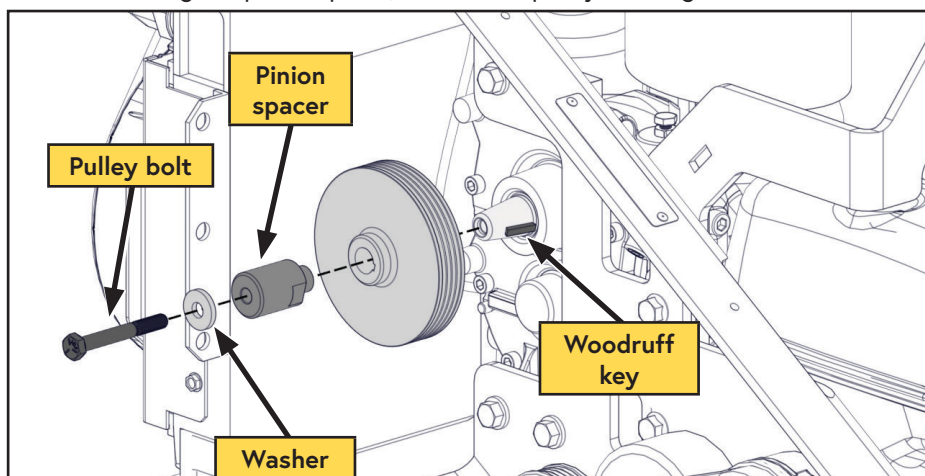

Figure 72 — Remove pulley
- While holding the pinion spacer, remove the pulley bolt (Figure 72).